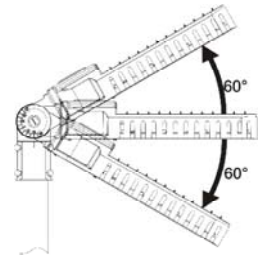

FIG.10
- To aim the fixture, loosen and adjust the M12 knuckle bolt to right angle, adjust the aim 0 to 60°both upward and downward(see **FIG.10**).